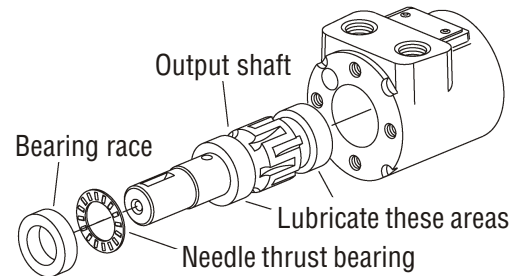

Figure 5-48, Output Shaft
8. Lubricate the output shaft with hydraulic oil, then install the output shaft into the housing. (Figure 5-48)